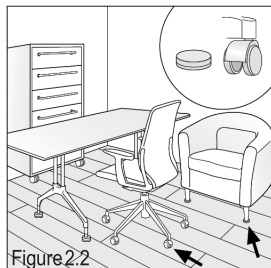

Figure 2.2
- To help guard against scratches and dents, install felt floor protectors under furniture legs. It is important they are changed on a regular basis to prevent dirt, debris buildup. (Figure 2.2).
- Rolling castors may damage the floor. Therefore, we do not recommend them. If you choose to use them, the rubber barrel-type or double wheel types are the best option. (Figure 2.2). Use of protective mat under rolling castors is recommended.